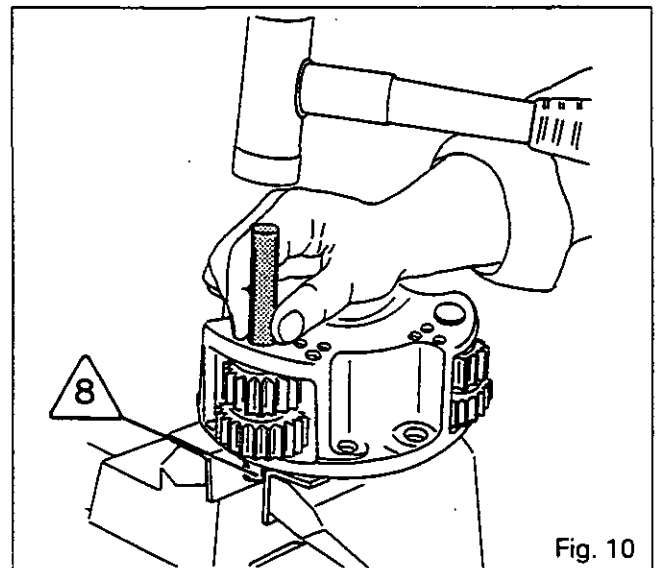

Fig. 10
21. Drive out spindles /8\ with a drift and a mallet (Fig.10).
23. Take out needle-roller bearings (11) and (16), spacers (14), and washers (10) and (17).